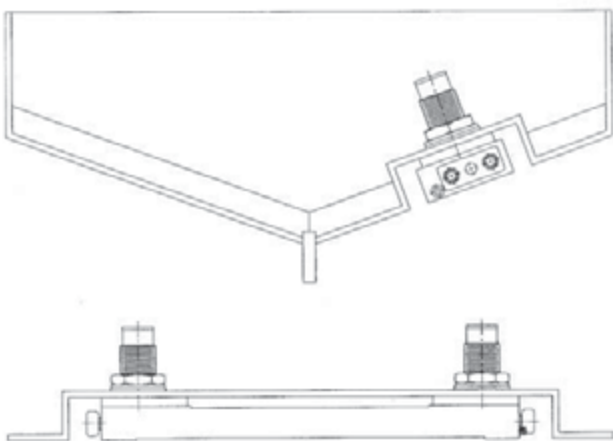

FIG. 2 Recess type installation with E1 OPTION end-mounted zinc anodes for reduced drag in high-speed craft.
- 1.7.3 High speed applications and others that use E1 OPTION™ coolers should take into consideration the removal and replacement of zinc electrodes when sizing the length of a recess. See Figure 2.